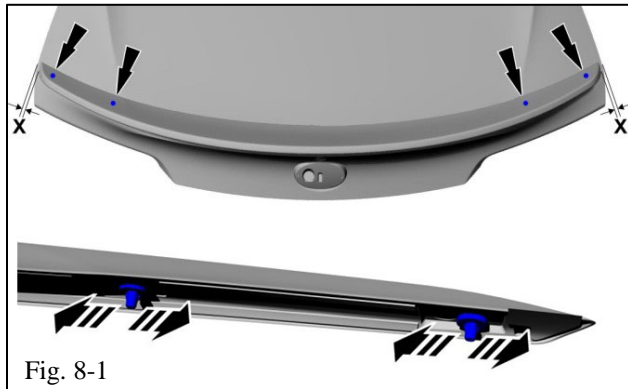

Fig. 8-1
- (a) Adjust the 4 sliding clips to line up to the holes (Fig. 8-1). Confirm even spacing LH and RH at the outboard edges of the spoiler to the trunk lid.
- (b) Before contacting the tape to the trunk lid, verify that the spoiler is centered (Fig. 8-1).